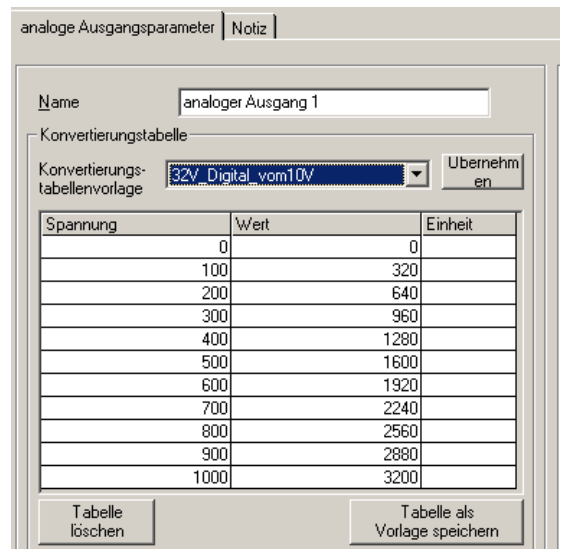

Figure 23: Transmission of the measuring value as text
Instead of the percent format it can also be shown as a text in the display of the Touch Panel. Figure 23 shows a conversion table which will show the text 0 ... 32 (V) on the display instead of 0 ... 100 %.